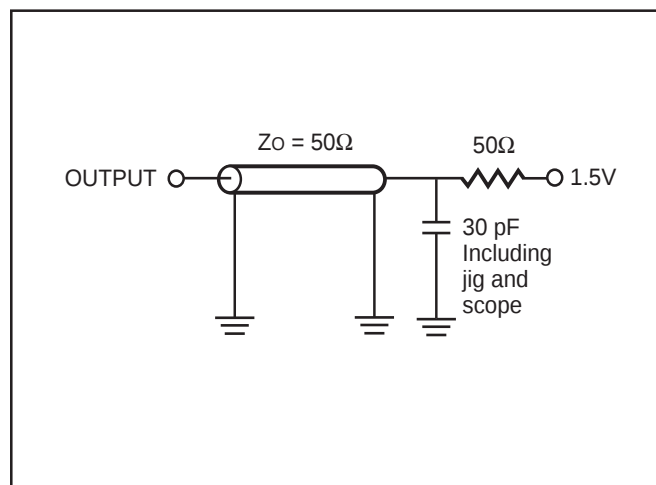

Figure 1
| Output Load                                 | See Figures 1 and 2 |
1. Test conditions assume signal transition times of 3 ns or less, timing reference levels of 1.5V, input pulse levels of 0V to 3.0V and output loading specified in Figure 1.